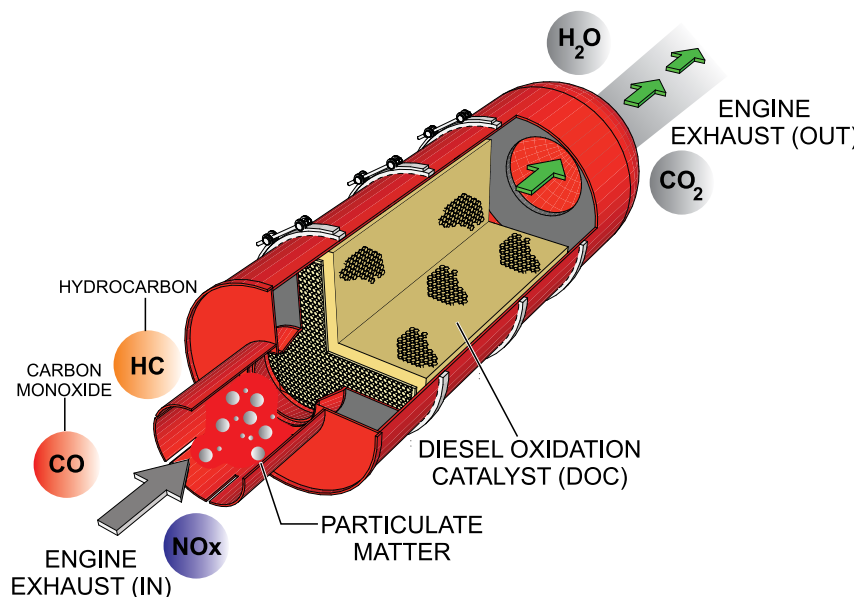

Figure 73. Diesel Oxidation Catalyst DOC)
The DOC device (Figure 73) helps in filtering out large amounts of harmful **Nitrogen Oxides (NOx)** and **Particulate Matter (PM)** which are emitted by diesel engines. These exhaust emissions pose serious environmental and health risks. It is important to maintain and service the DOC emission safety device on a periodic basis.